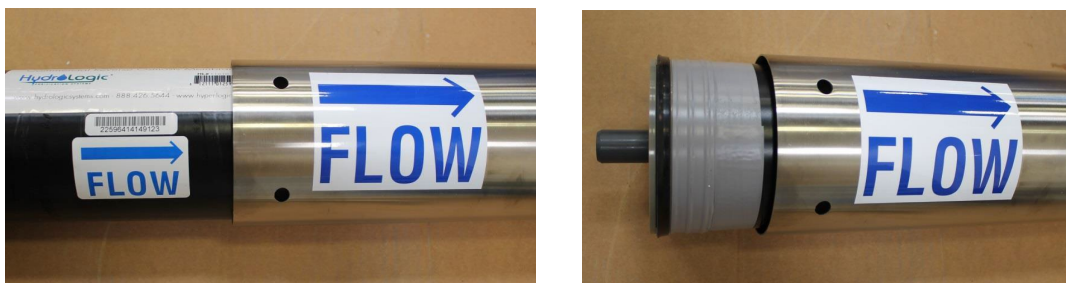

Figure 2
- f. Match the FLOW arrow on the membrane to the FLOW arrow direction on the stainless-steel membrane housing. Make sure the brine seal is on the FEED end of the housing and gently put it into the membrane vessel making sure not to roll or fold the seal in the process. Press into place until lower Membrane Adapter Fitting mates with lower membrane vessel end cap inner seal. Refer to 'Figure 2' below.